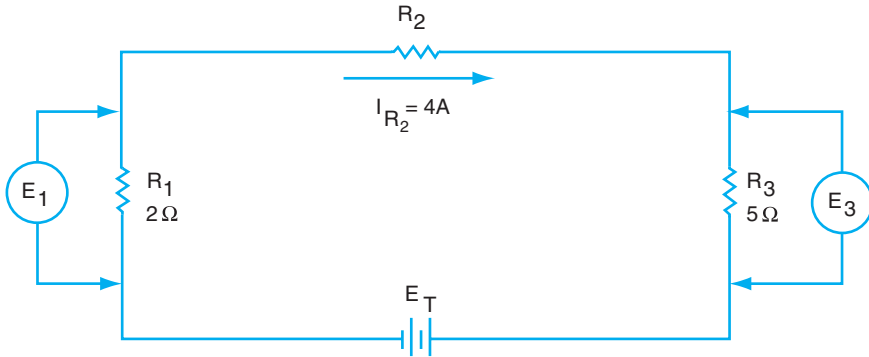

Figure 3-14 Finding voltages.
12. Find E_1 and E_3 in Figure 3-14.
15. In Figure 3-14, find the current through R_3 if $E_1 = 18\text{ volts}$ and I_{R_2} is unknown.
16. In Figure 3-14, if I_{R_2} is unknown and E_3 is 15 volts , find E_1 .